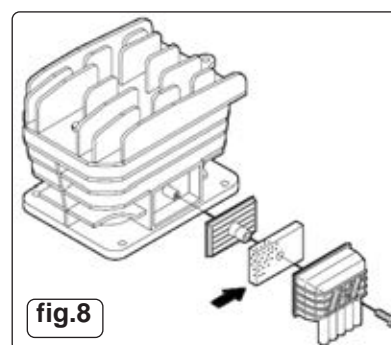

fig.8
- a) Remove the air filter element (fig.8). Using stored air from the compressor's tank, clean the filter with compressed air. (Wear eye protection and **DO NOT** direct air towards the body or hands). **DO NOT** operate the compressor without the filter as foreign bodies or dust could seriously damage the pump. Replace the filter element and air filter housing.
- b) Replace air filter. (See fig.8)